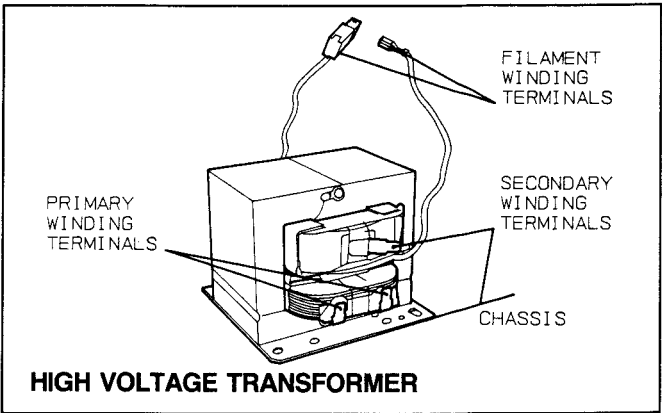

Fig. 32
1. High voltage transformer (refer to Fig. 32)
- (A) Remove connections from the transformer terminals and check continuity.
- (B) Normal (cold) resistance readings should be as follows: